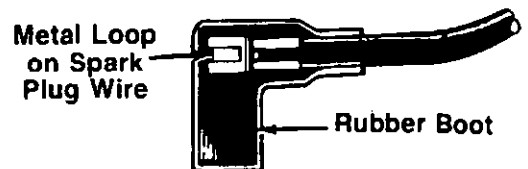

FIGURE 15.
1. Attach spark plug wire to spark plug. Make certain the metal loop on the end of the spark plug wire (inside the rubber boot) is fastened securely over the metal tip on the spark plug. See figure 15.